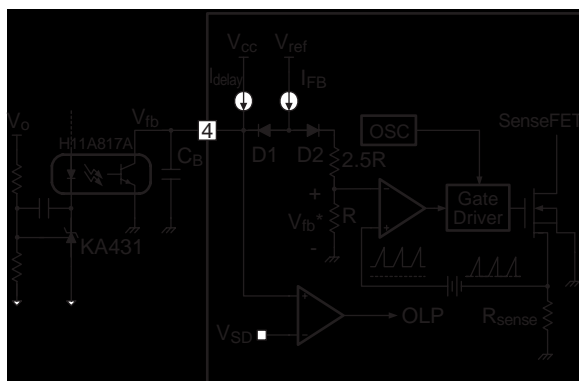

Figure 11. Pulse Width Modulation (PWM) Circuit
3. Feedback Control: The FSCQ-Series employs current mode control, as shown in Figure 11. An optocoupler (such as Fairchild’s H11A817A) and shunt regulator (such as Fairchild’s KA431) are typically used to implement the feedback network. Comparing the feedback voltage with the voltage across the Rsense resistor plus an offset voltage makes it possible to control the switching duty cycle. When the reference pin voltage of the KA431 exceeds the internal reference voltage of 2.5V, the H11A817A LED current increases, pulling down the feedback voltage and reducing the duty cycle. This event typically happens when the input voltage is increased or the output load is decreased.
3.1 Pulse-by-Pulse Current Limit: Because current mode control is employed, the peak current through the SenseFET is limited by the inverting input of the PWM comparator (Vfb*) as shown in Figure 11. The feedback current (IFB) and internal resistors are designed so that the maximum cathode voltage of diode D2 is about 2.8V, which occurs when all IFB flows through the internal resistors. Since D1 is blocked when the feedback voltage (Vfb) exceeds 2.8V, the maximum voltage of the cathode